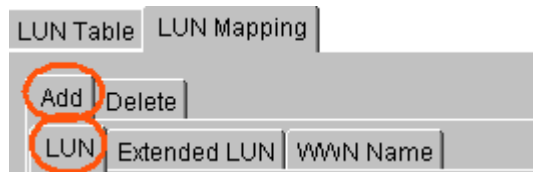

Figure 9-4: Select ADD then LUN
Step 3. Select the **LUN Mapping** tab shown at the top of the *LUN Map Table*. A new screen will appear in the content window. From this screen first select the **Add** sub-tab, and then click on the **LUN** sub-tab. (See *Figure 9-4*).